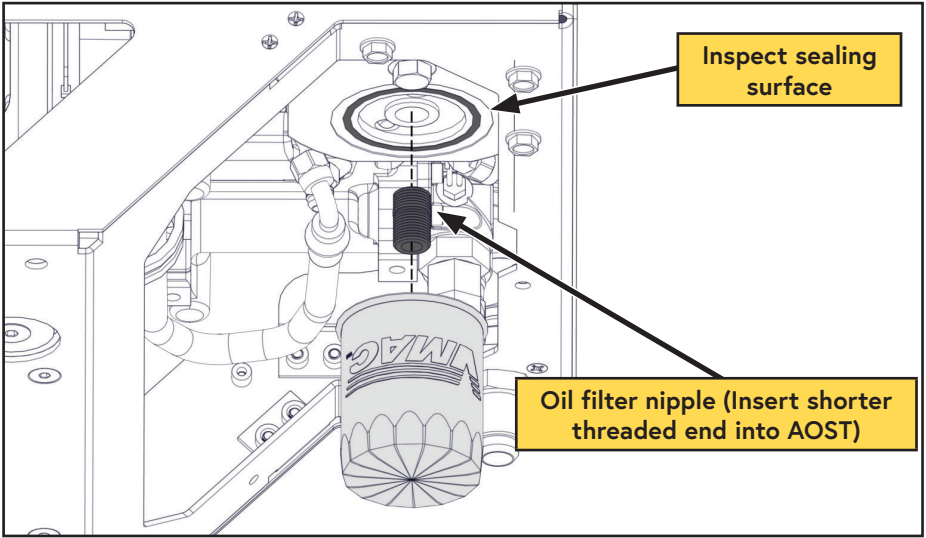

Figure 28 — Replace oil filter
- ☐ Ensure the threaded nipple did not unscrew with the oil filter (Figure 28).
- ☐ *If the nipple came out with the oil filter, remove it from the filter, being careful to avoid damaging the threads (Figure 28).
- ☐ *To reinstall the nipple, thoroughly clean the threads and apply Loctite 242 (blue) to the end with the short threads and replace it in the AOST (Figure 28).
- ☐ Clean the gasket sealing surface on the front of the AOST and inspect it for damage. The surface must be free of old gasket material, and smooth, to ensure a good seal (Figure 28).